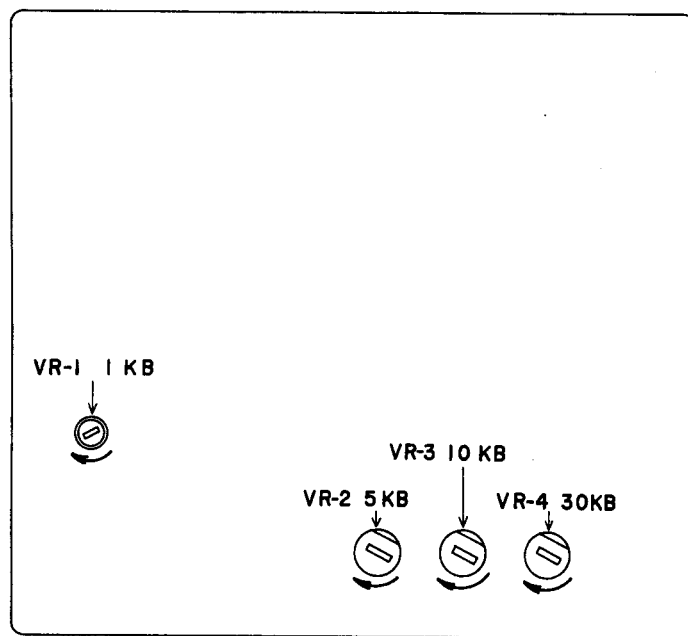

Fig. 22 Servo P.C Board TW-1049 SED
2. TAPE SPEED ADJUSTMENT (Refer to Fig. 22)